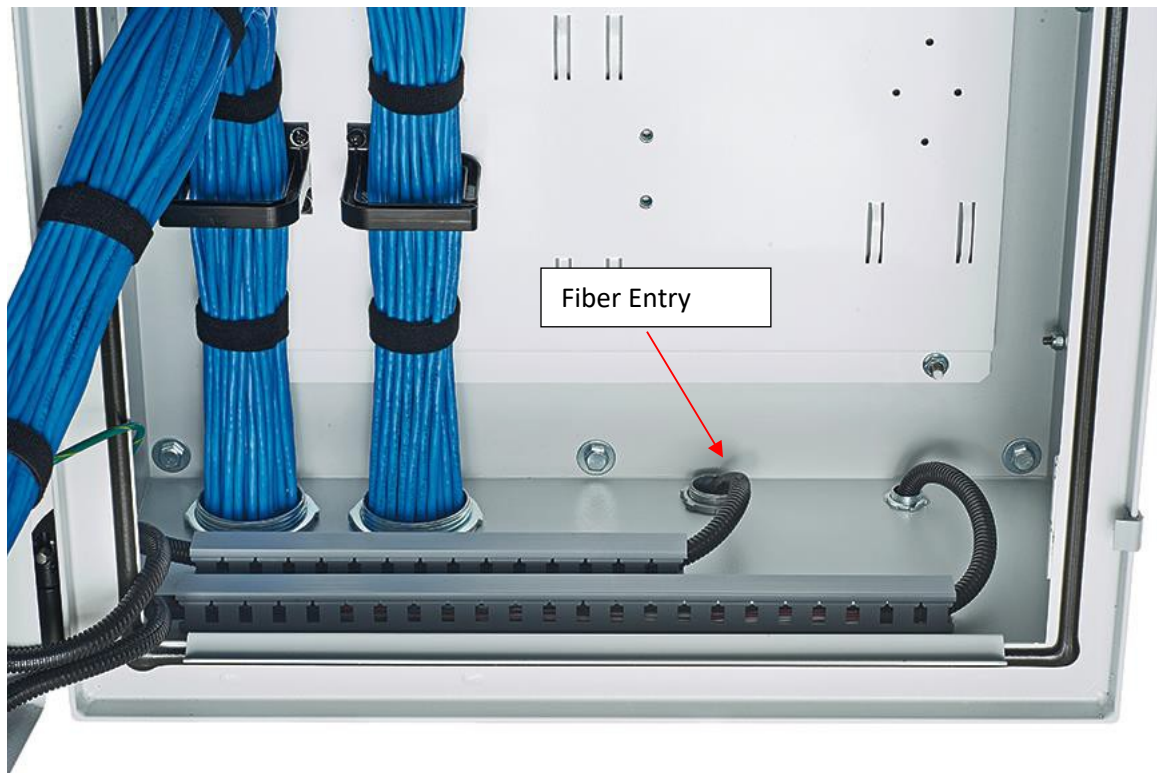

Figure 6: Fiber Trunk Entry
5. Route the jacketed fiber cable through the Panduit Duct shown in Figure 6.